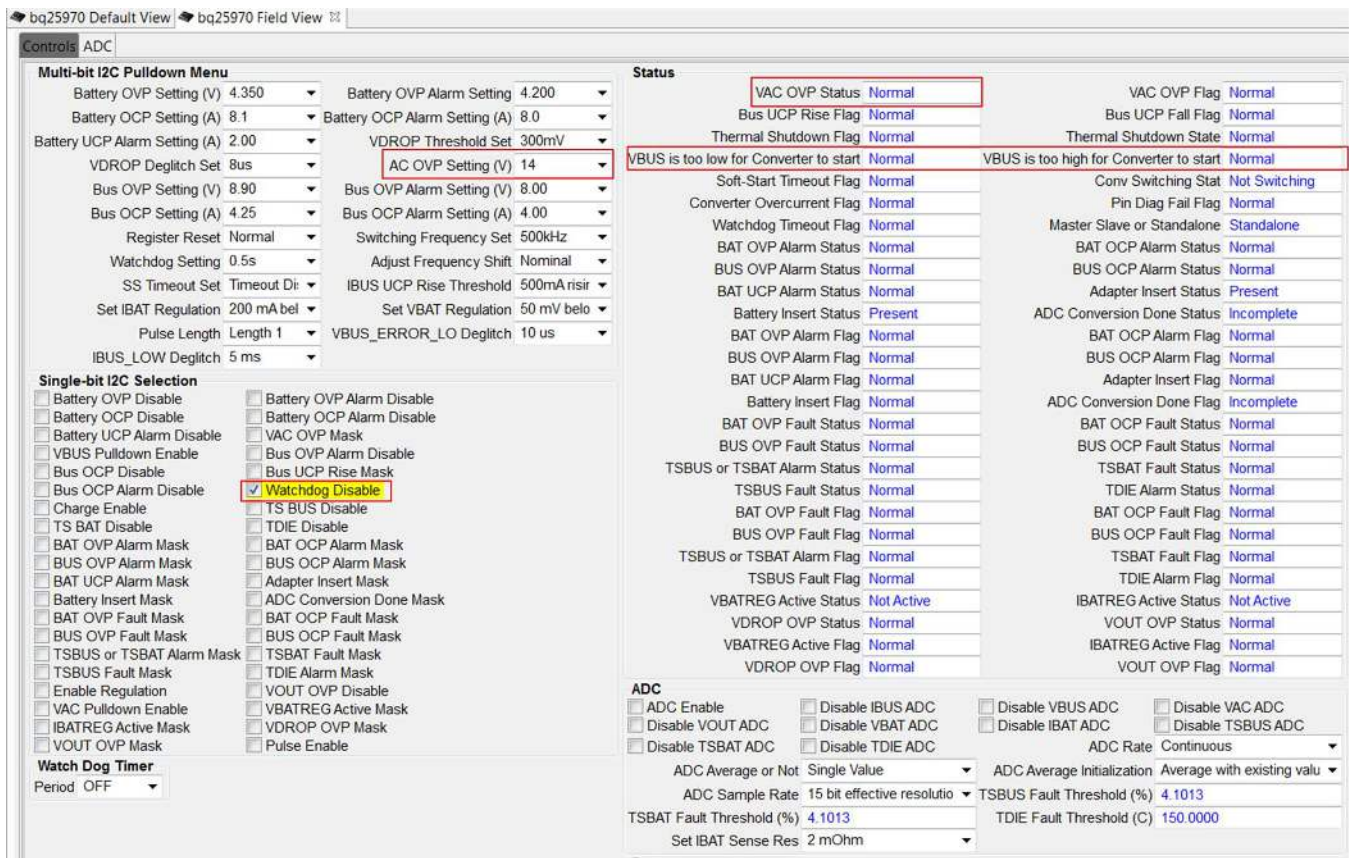

Figure 4. Sample of Register Map
4. In the EVM software, make the following changes as necessary Figure 4: